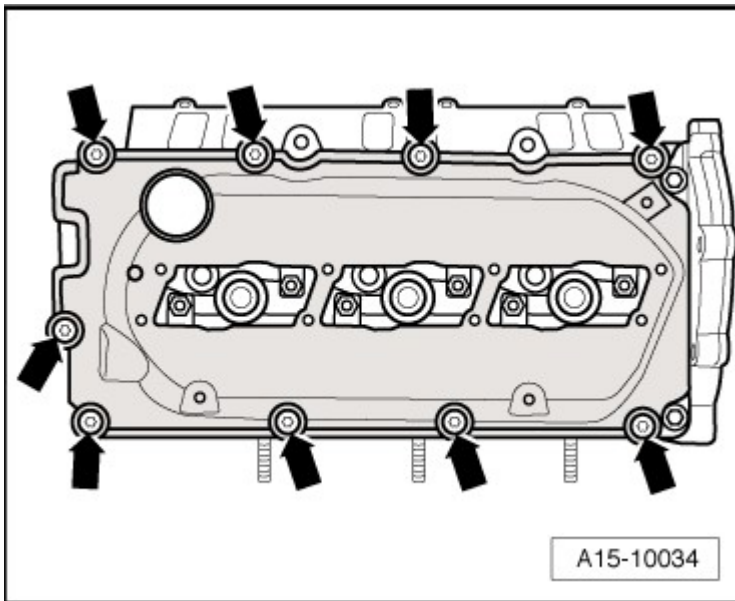

Fig. 2: Identifying Cylinder Head Cover, Tightening Specifications and Sequence
- Tightening specification and sequence, refer to **Fig. 2**